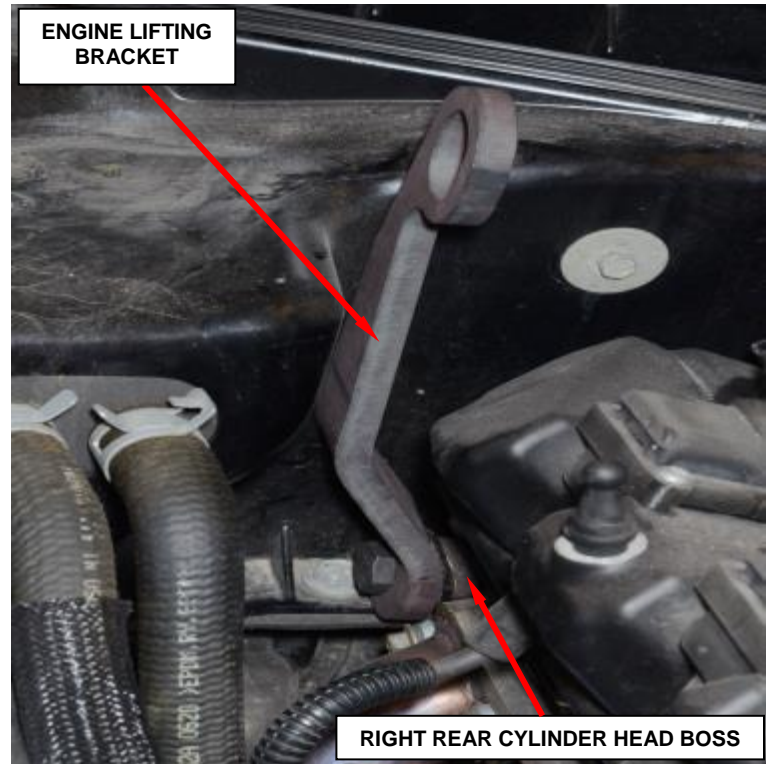

Figure 47 – Right Rear Cylinder Head Boss
57. Install the Engine Lifting Bracket, Rear 10034-2 to the right rear cylinder head boss (Figure 47).
2. Install the Engine Lifting Bracket, Front 10034-1 to the left front cylinder head boss of the **NEW** engine long block (Figure 47).